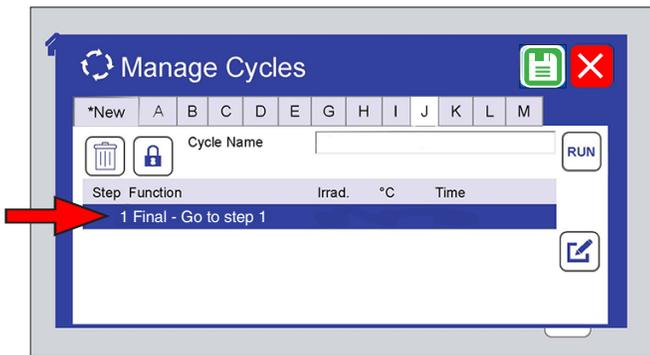

Figure 7.8: An empty cycle is created with only a final step (Section 11.7.7).
- Every test cycle must have a “Final - Go to step 1” step (Figure 7.8).